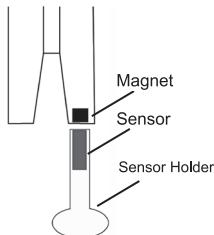

Fig 6
Refer to the Overview Notes on page 4 before starting installation. It is not possible to set out a single installation method for horizontal windlasses. The sensor may be fitted inside the windlass or you may need a sensor holder (Part # 9110). See Fig 6 below. Often the sensor and magnet can only be fitted by the windlass manufacturer.
**Sensor Position:** The AutoAnchor sensor may be fitted using a sensor holder fixed to the deck to sit under the chainwheel (See Fig 6). The AutoAnchor sensor holder (#9110) is not included in the standard kit. Check with your supplier if you need this. The AA black sensor and the reed switch sensor must be fitted directly in line with the magnet in the chainwheel. The AA grey sensor may be fitted up to 20mm out of alignment. The gap between the sensor and magnet must be as per the table below.